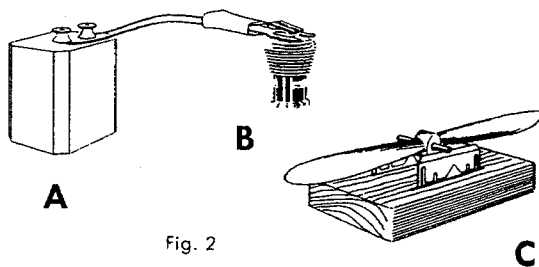

Fig. 2
4. Procure a 1 ½ volt dry cell battery, #6 or equivalent, and connect it with 2 flexible insulated wires to a glow plug clip as shown in the diagram A and B-Fig. 2. Do not use a stronger battery. If you do, the plug will burn out. The connections should be soldered to ensure good contact and taped to prevent bare ends of wire from getting together and "shortening" the battery. Be sure the battery is a good one. Your dealer sells batteries and glow plug clips. The Thimble-Drome plastic mounted glow plug clip with wires already attached is recommended.
5. Balance and trim propeller. This is very essential for good performance. Sand off any bead of plastic along edges of blades. Fit a drill or shaft through the hole and rest the shaft on razor blades set in wooden blocks as shown in C-Fig. 2. Sand the heavy blade until the propeller will balance in a horizontal position. Care must be exercised to do the sanding without spoiling the airfoil characteristics.
5. Connect the battery by snapping the clip on the glow plug. B-Fig. 2.